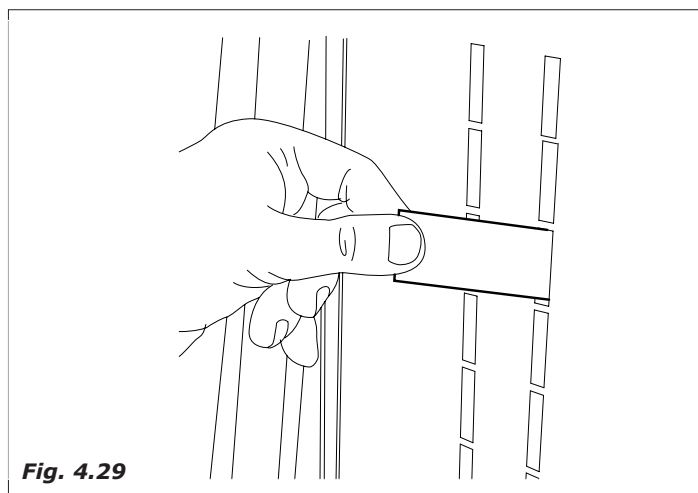

Fig. 4.29
- insert the labels in the order according to the selections used on the vending machine (Fig. 4.29)